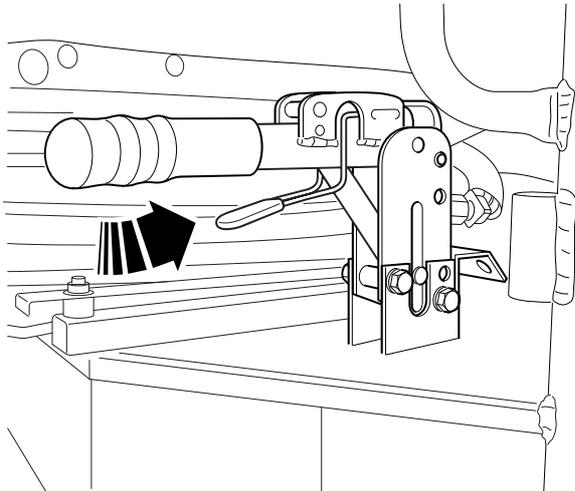

Fig 26. Later Type Park Brake Lever
- b Later type park brake lever. ⇒ Fig 26. \(□ G-26\):